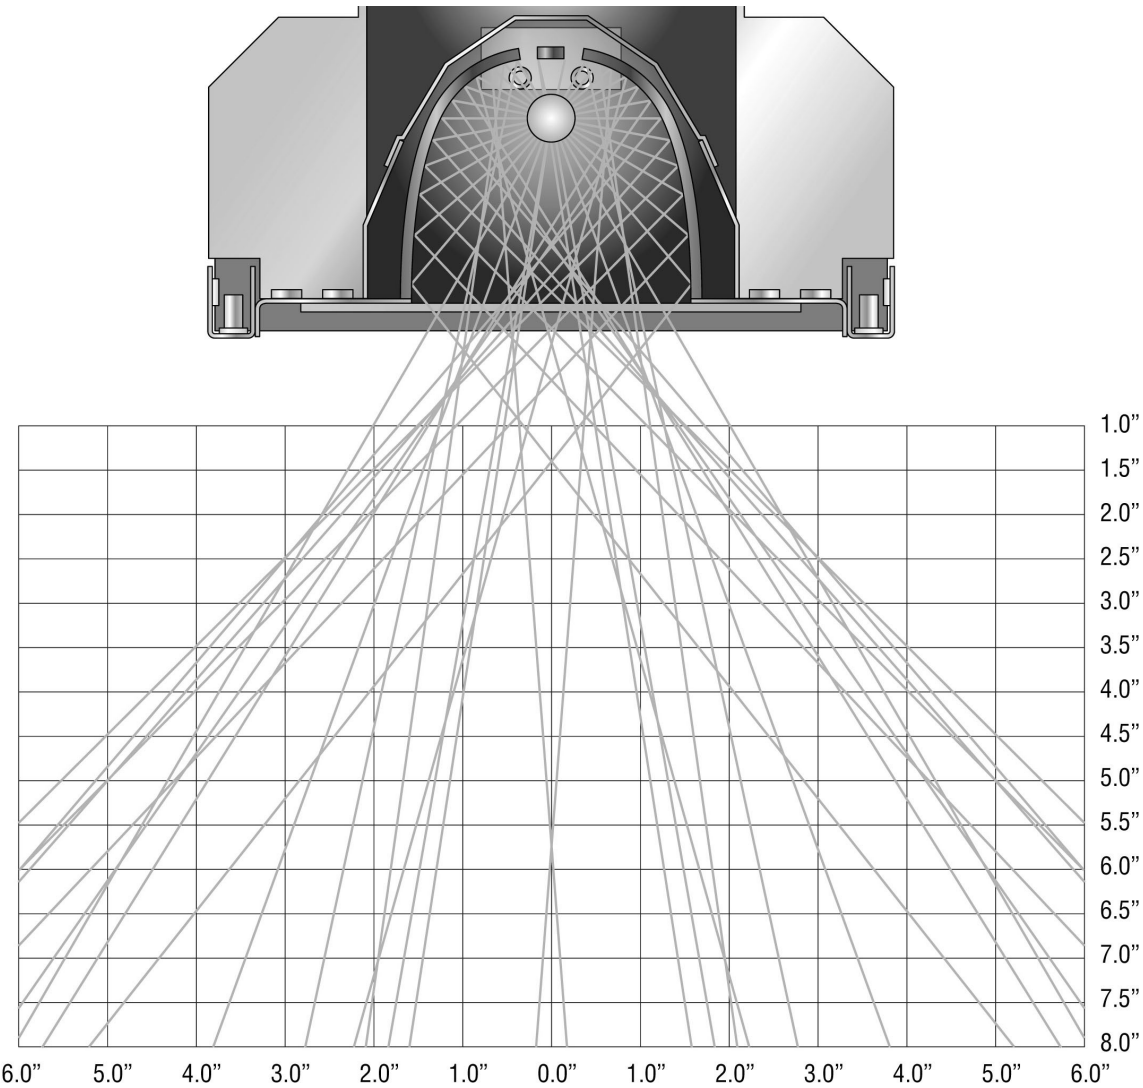

Figure 2-4 Flood Reflectors
- The flood reflectors produce a wider band of UV light. See Figure 2-4.